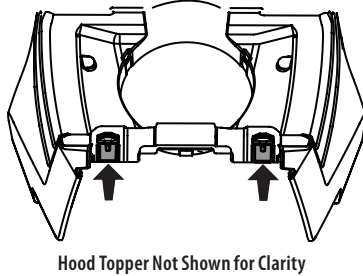

Figure 7
3. Once the hood topper is in place, the two locking tabs near the rear of the hood need to be pushed upward to lock the hood topper in place. See Figure 7.